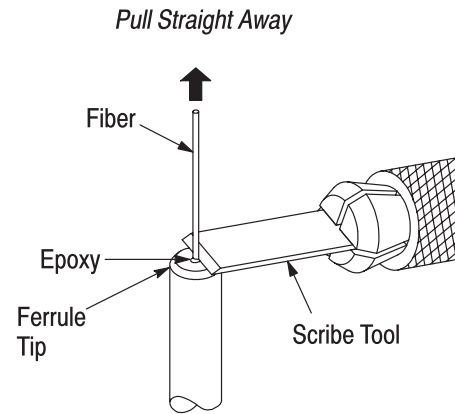

Figure 6
3. Place the blade of the scribe tool directly above the epoxy, and lightly draw the beveled edge across the fiber parallel to the tip of the ferrule. See Figure 6. After scoring the fiber, pull it straight away from the connector.